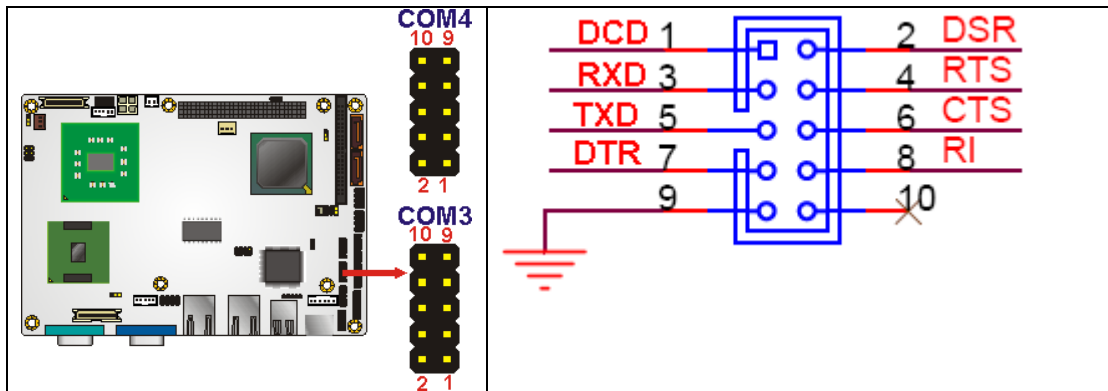

Figure 3-20: COM Connector Pinout Locations
- CN Location:** See Figure 3-20